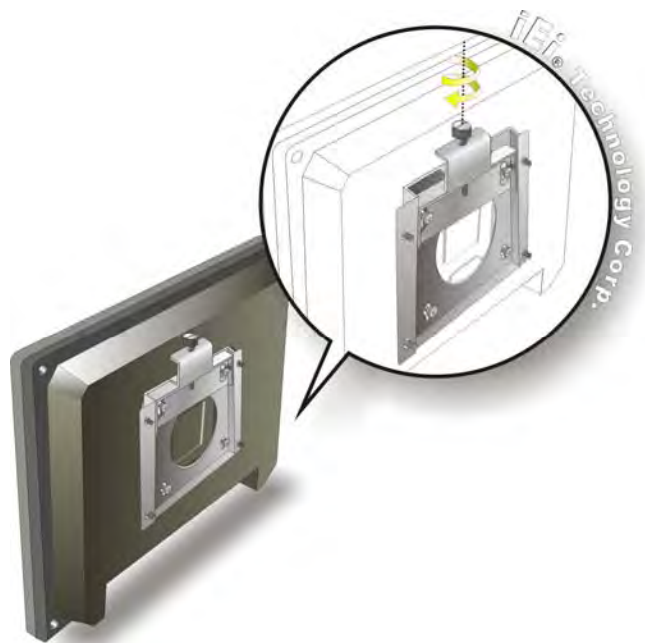

Figure 4-11: Secure the IOVU-751R
Step 9: Secure the panel PC by fastening the retention screw of the wall-mounting bracket. (Figure 4-11).